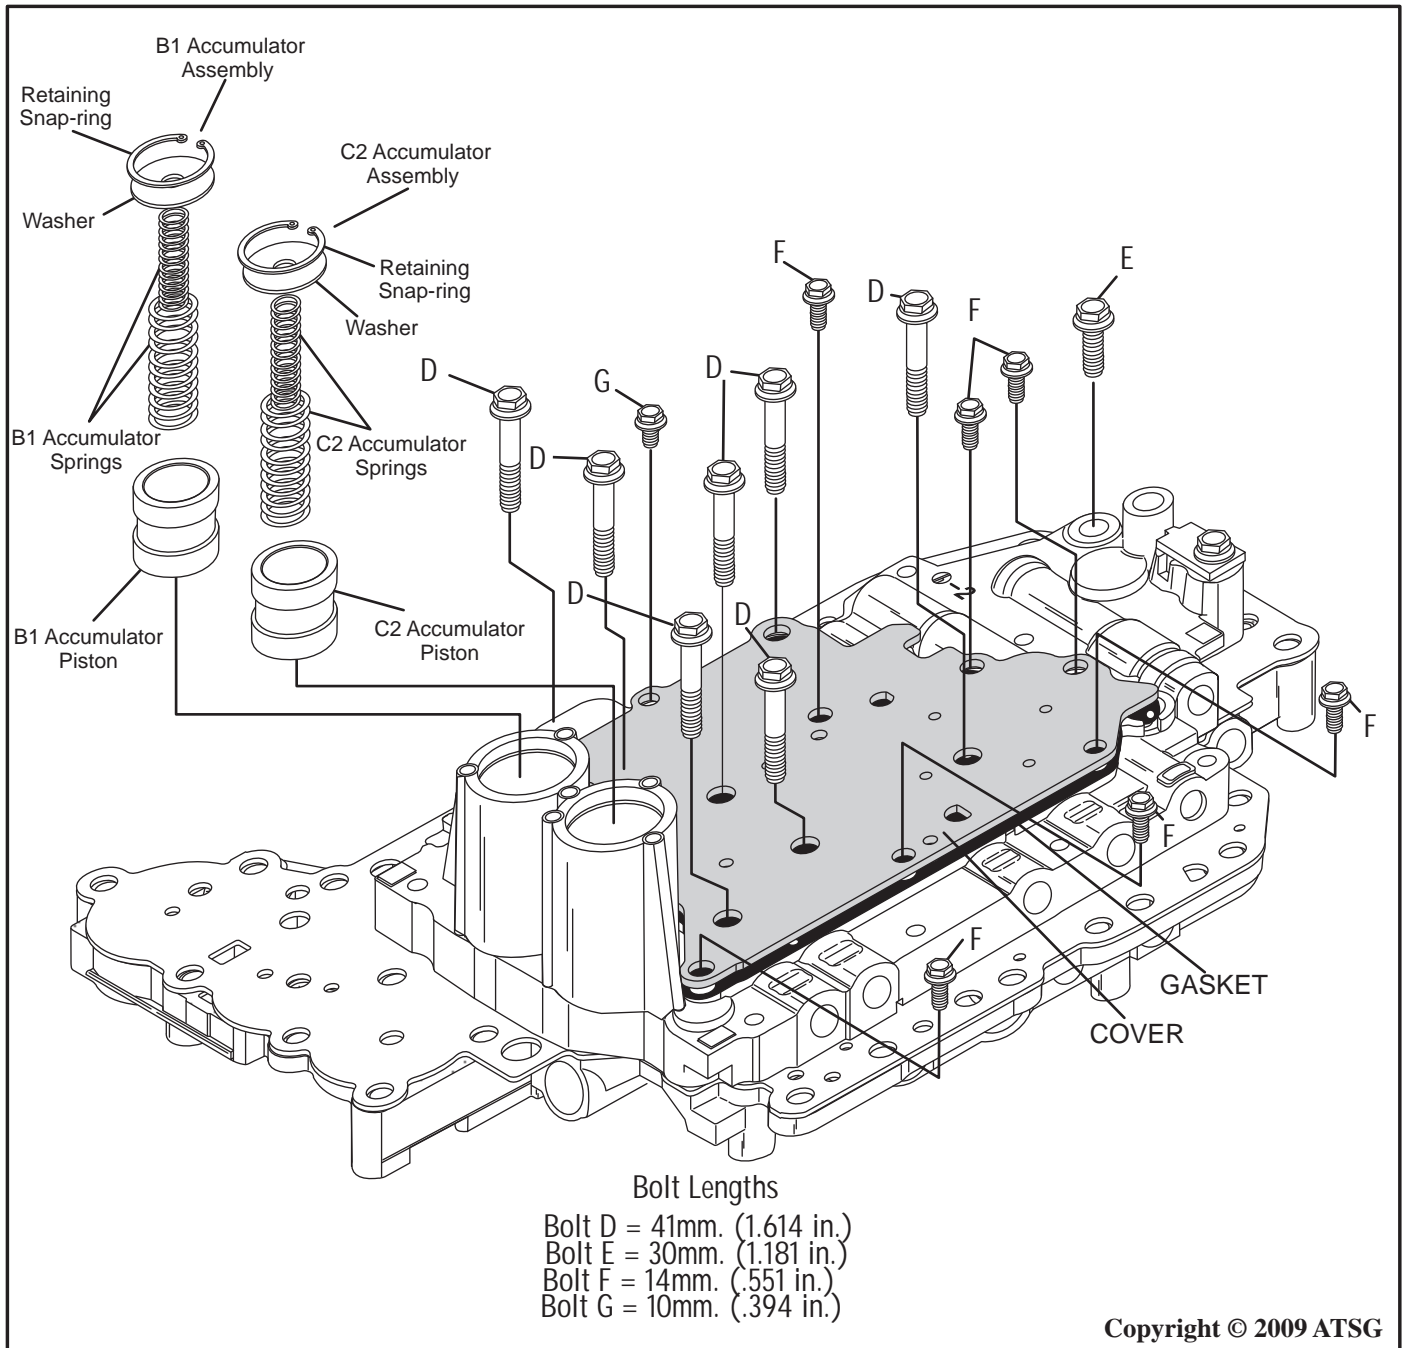

Figure 126
7. Remove the seven, 10 mm bolts identified with the letter "D" as shown in Figure 126.
8. Remove the 10 mm bolt identified with the letter "E" as shown in Figure 126
9. Remove the six, 8 mm bolts identified with the letter "F" as shown in Figure 126.
10. Remove the remaining 8 mm bolt identified with the letter "G" and remove the cover as shown in Figure 126.
11. Using snap-ring pliers, remove the snap rings retaining the B1 and C2 accumulator lineups as shown in Figure 126.
12. Remove the B1 and C2 accumulator assembly retaining washers, springs and pistons, as shown in Figure 126 and lay aside for later inspection.